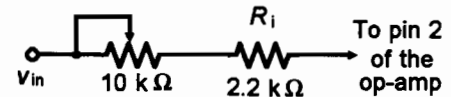

Figure 46.2
- Disconnect the AC signal source; turn off the DC source. Connect a 10-kΩ potentiometer in series with  $R_i$  as shown in Figure 46.2. Change  $R_f$  back to the 15-kΩ resistor.